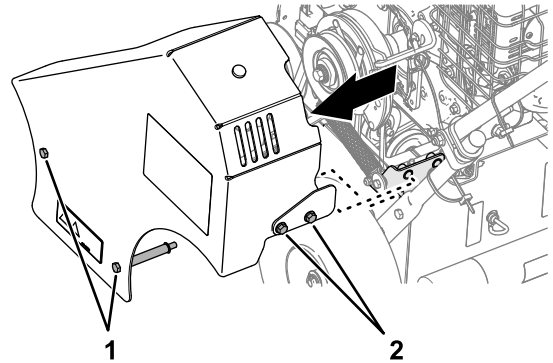

Figure 24
1. Loosen the 2 capscrews, and 2 flange-head bolts that secure the belt guard to the machine (Figure 24).
2. Remove the belt guard from the machine (Figure 24).